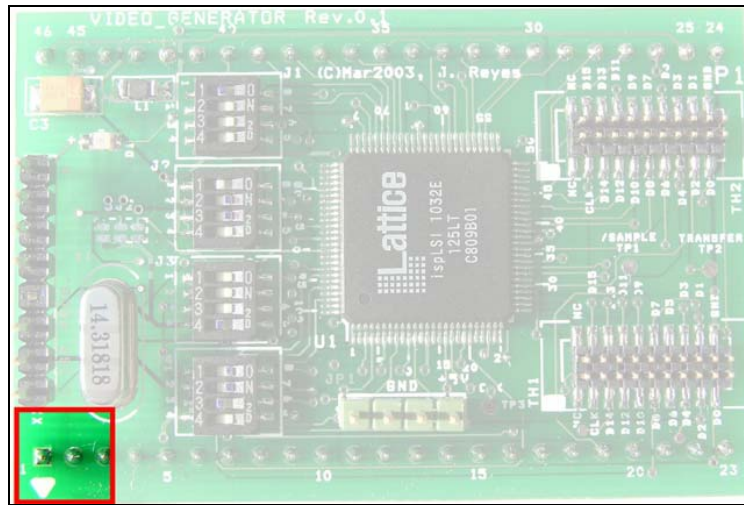

Figure 5: Position of the pixel generator on the video board.
- 3 Pay attention to the way the module is plugged on the board. See Figure 5.